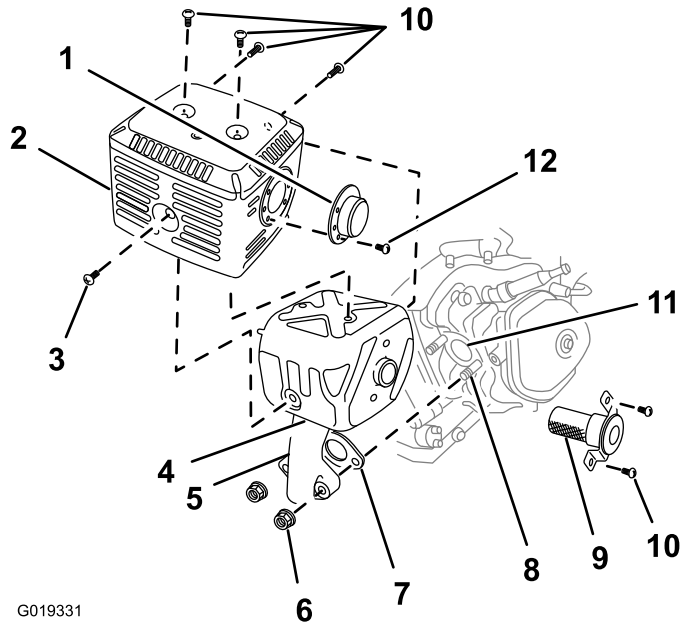

Figure 45
5. Remove the 2 nuts (8 mm) and remove the muffler from the cylinder (Figure 45).
6. Remove the 3 screws (4 mm) from the exhaust deflector, and remove the deflector (Figure 45).
- Remove the screws (5 mm and 6 mm) from the muffler protector, and remove the muffler protector (Figure 45).
- Remove the screws (4 mm) from the spark arrester, and remove the spark arrester from the muffler (Figure 45).